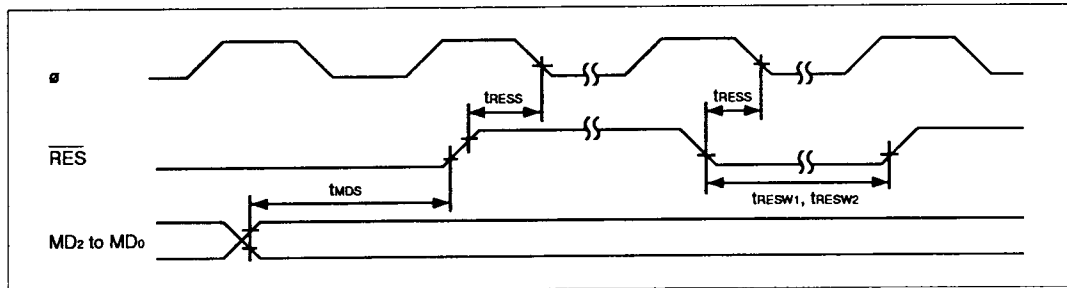

Figure 18-6 Reset Input Timing
18.3.2 Control Signal Timing	Figures 18-6 to 18-8